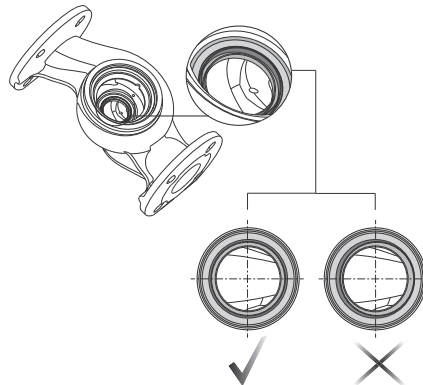

Fig. 9 Centering of neck ring
1. Visually check that the neck ring is centered in the pump casing. See fig. 9.